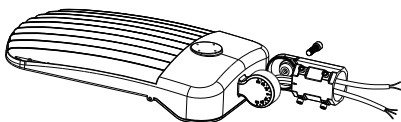

Figure 1
- Step 1: Remove the bracket mounting screws on the fixture and run the wires through the bracket. (Figure 1)